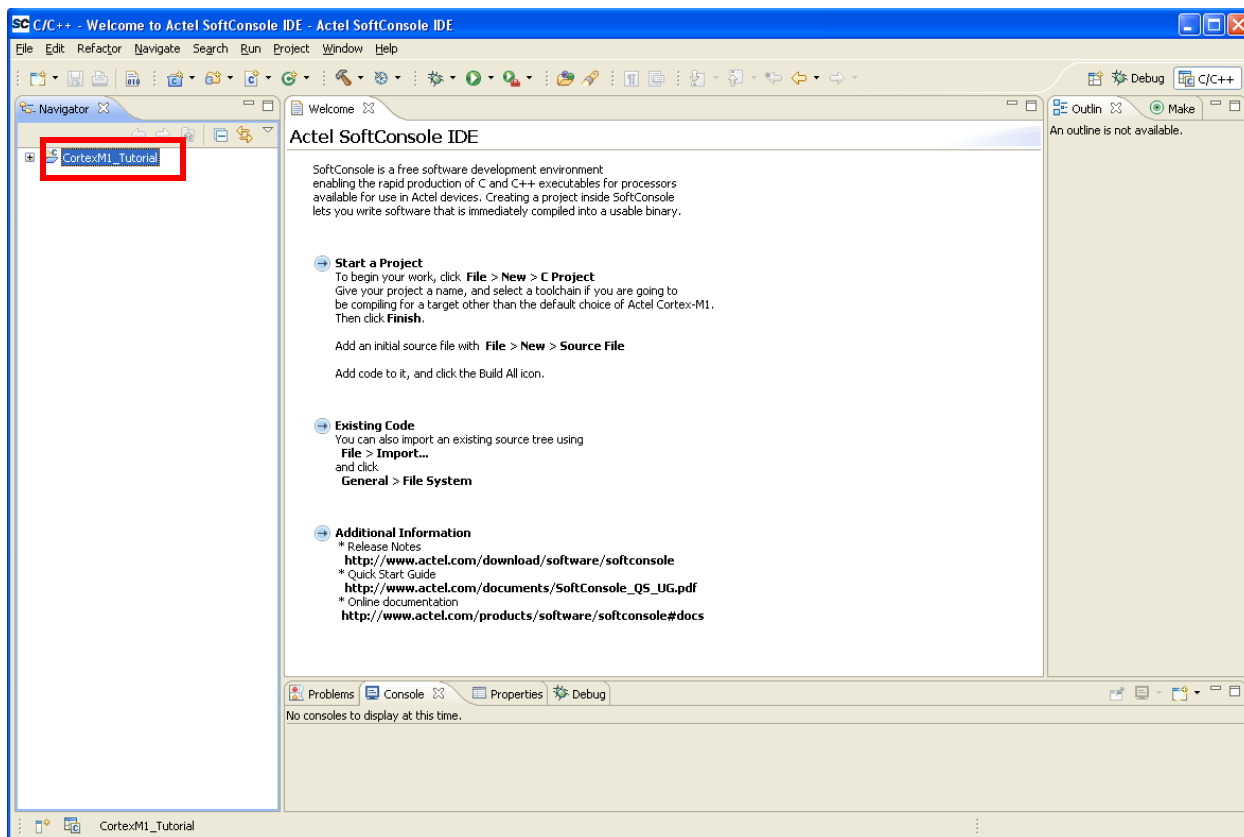

Figure 2-3 • Navigator View
5. Type CortexM1\_Tutorial in the Project name field, select **Actel Cortex-M1 Tools**, and click **Finish**. The CortexM1\_Tutorial project appears in the Navigator view on the left (Figure 2-3).